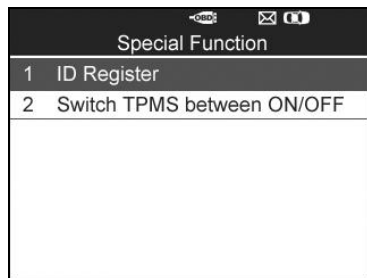

Figure 4.39
- 2) The tool will display a list of available special functions for the vehicle being tested. (Figure 4.39).
- 3) To manually switch on/off TPM system, use the **UP/DOWN** scroll button to select **Switch TPMS between On/Off** and press the **Y** button. (Figure 4.39)